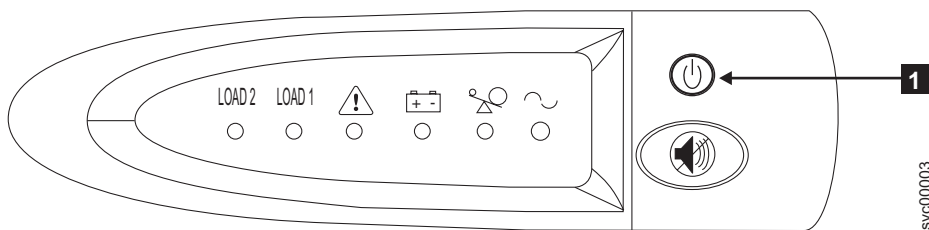

Figure 199. The 2145 UPS-1U front panel assembly
1. At the front of the 2145 UPS-1U, press and hold the on/off button (**1** in Figure 199) until the power light is extinguished (approximately five seconds). The 2145 UPS-1U enters standby mode.